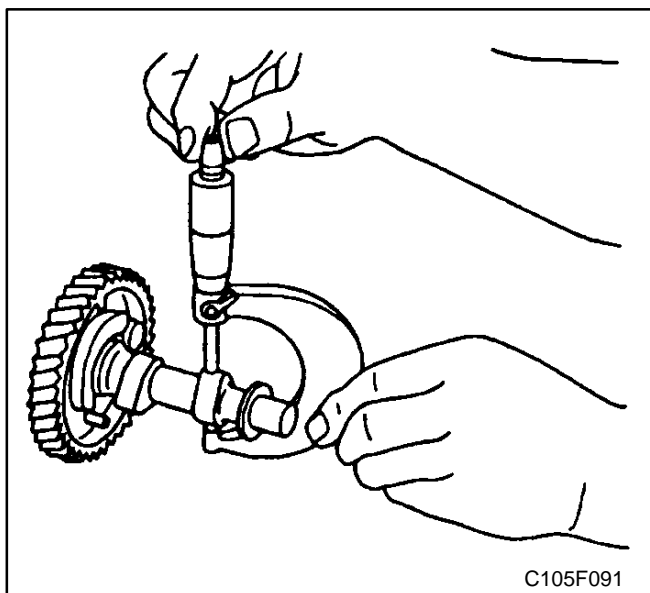

FIGURE 9-24. INTAKE AND EXHAUST CAM HEIGHTS
1. Measure the height of the cam at its highest point with an outside micrometer (Figure 9-24).